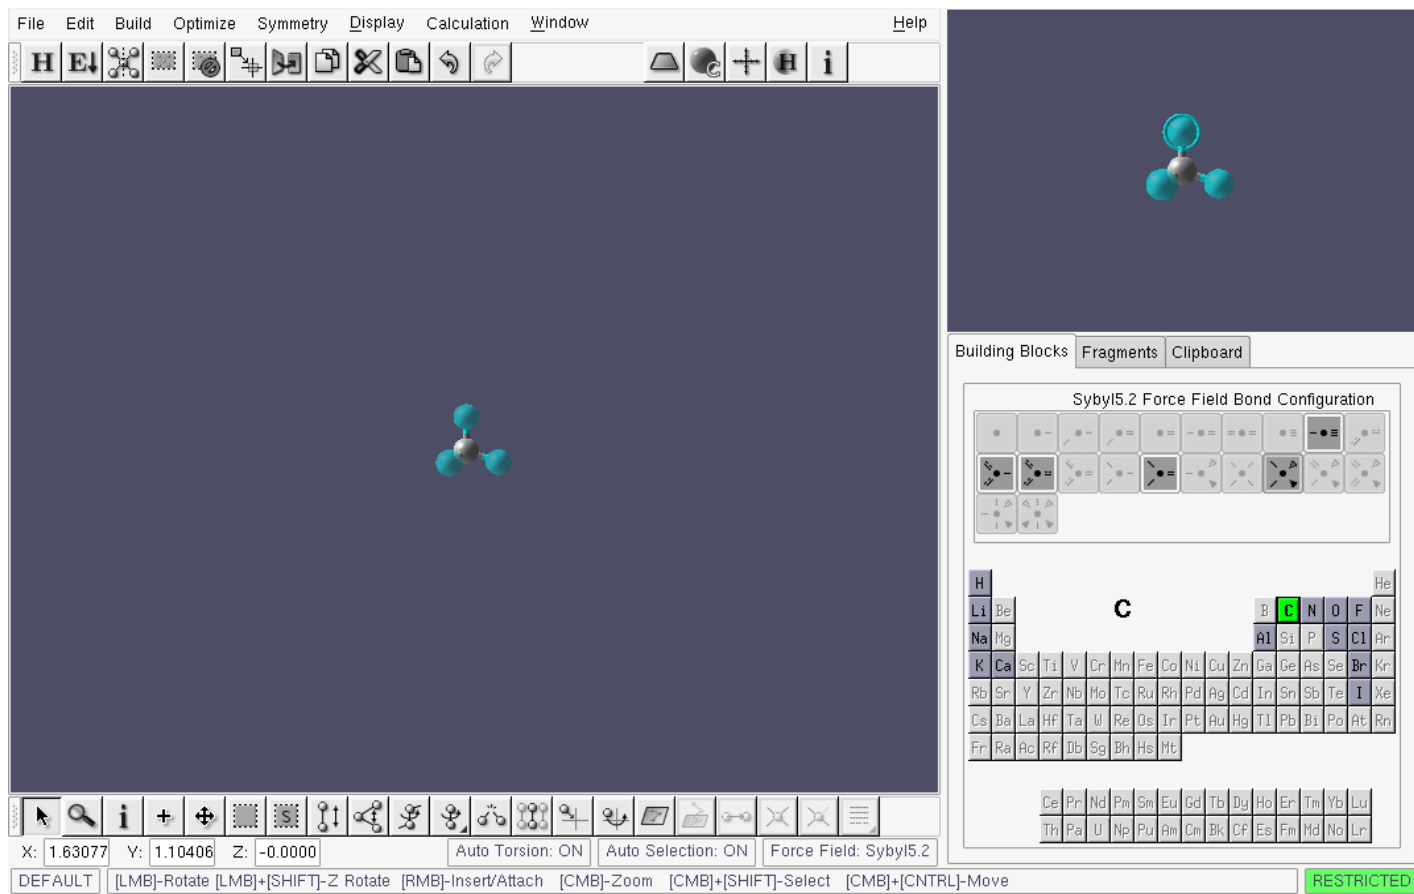

Figure 4.26: Build and segment windows - inserting the tetrahedral carbon building block
At this point we should have the correct building block ready to insert into the *Build window*. The *Segment window* should look like the one in Figure 4.26. To insert the building block, first select the **Add/Attach/Connect** tool from the toolbar at the bottom of the window and click anywhere inside the build area.
**Note:** If for some reason the building block in your *Segment window* is different than the one in Figure 4.26, you can select the tetrahedral carbon building block by clicking on the carbon button in the periodic table.
Figure 4.26 shows the *Build window* with the tetrahedral carbon inserted.